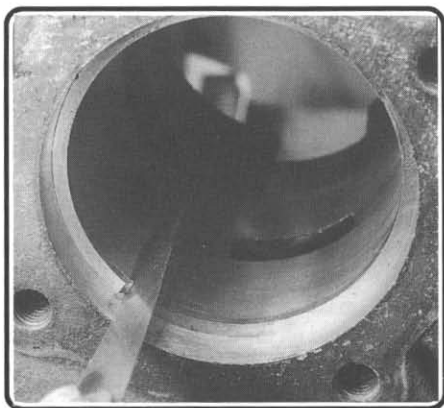

Figure 42. Measuring piston ring gap.
- 32.7. Place each new ring in the cylinder and check the gap at the ends. See figure 42. Make sure the ends of the ring are not touching. There should be about .3mm to .5mm gap between the ends when the ring is in the cylinder. If necessary, grind some off the end of the ring.